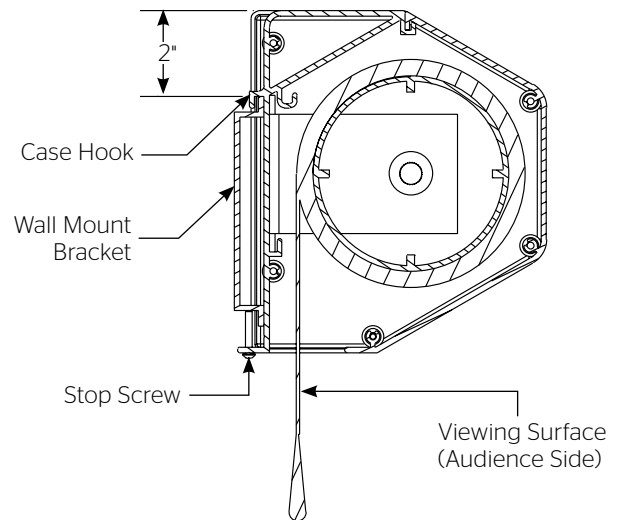

Figure 1
5. Mount the screen case on the wall bracket as shown in figure 1. Be sure the case is fully seated on the bracket. Tighten the stop screws against the wall bracket.